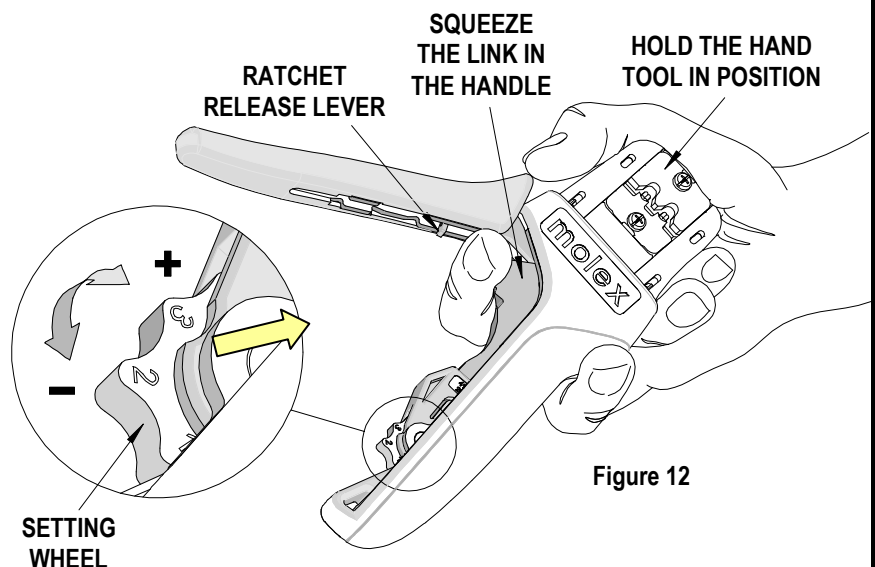

Figure 12
1. Hold the hand tool in the palm of your hand as shown in Figure 12. Using the index finger squeeze the link towards the top of the hand tool frame. This will release the preload adjustment wheel.